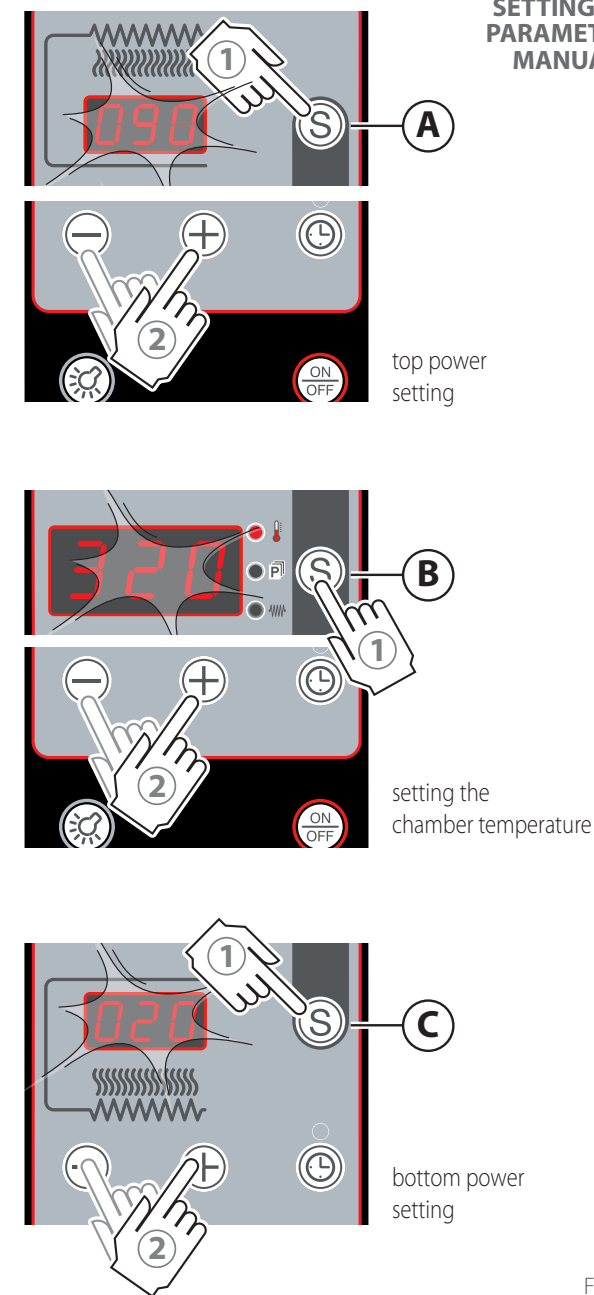

Fig.17.
See ► chap. **"Setting parameters in manual mode"** on page 16 and ► Fig.17.
▶ Fig.17.
If, during cooking, it is necessary to modify the parameters of the displayed program (B), act as explained in ► Fig.17.